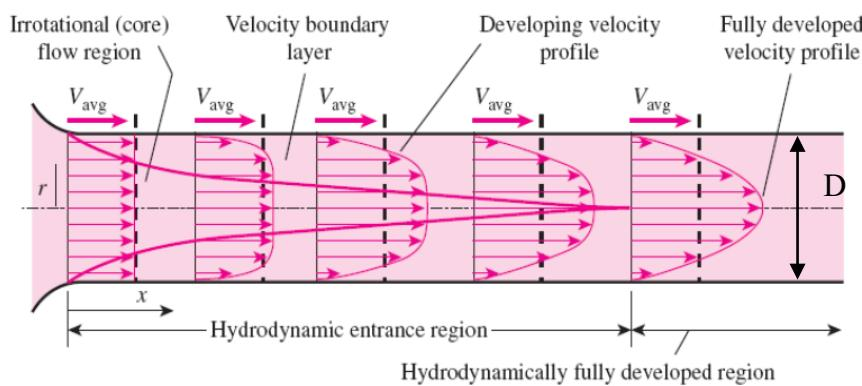

Figure 5
5. After a distance from the tube entrance, the velocity profile of fluid flow in a long straight tube become fully developed, where the velocity profiles no longer changes along the axial direction, as illustrated in Figure 5. As the shear stress (τ_w) in the tube is assumed to be a function of average velocity (V_{avg}), pipe diameter (D), fluid density (ρ), and fluid viscosity (μ). Using the Pi theorem, derive the appropriate dimensionless group.